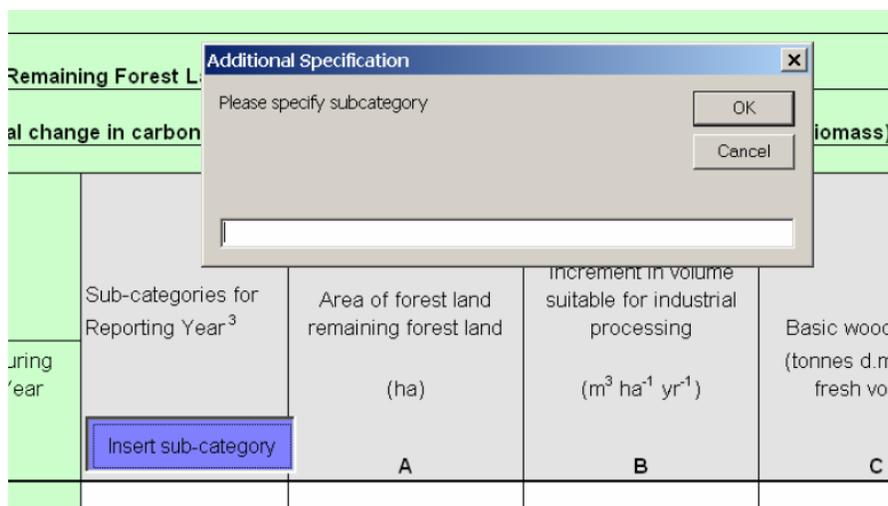

Figure 20. By clicking the blue button the user can specify sub-categories for land uses and land-use changes.
- In the various tables it may be useful to **disaggregate Land Use or Land-Use Change categories into sub-categories**. This can easily be done by clicking the button provided in the worksheet and to specify the name of the sub-category (Figure 20). In some cases the same sub-categories should be used in several successive sheets, so that the software automatically inserts the same categories into more than one sheet. For example, the sub-categories that you insert into Table FL-1a\_1of4 will automatically be inserted into Tables FL-1a\_2of4, FL-1a\_3of4, and FL-1a\_4of4. Ensure that sub-categories are used consistently.